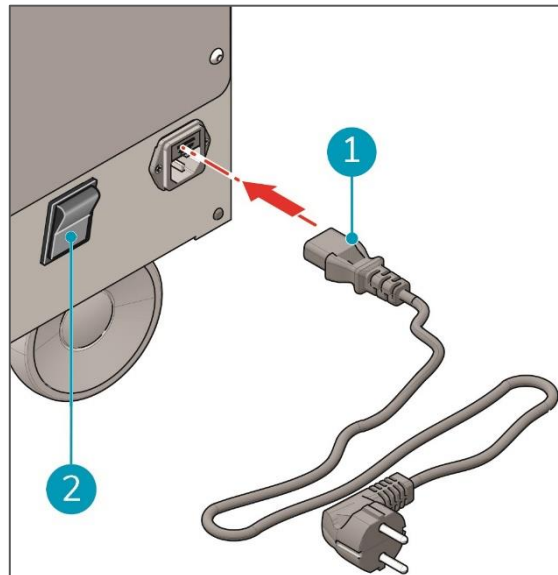

Figure 8
1. Insert the power cable into the power cable socket of the i-air Pro and the power plug into the wall socket (Figure 8, pos. 1).
2. Press the main power switch to turn on the power (Figure 8, pos. 2).
3. Press the main power switch (Figure 8, pos. 2) again to turn off the power.
11. Press the main power switch to turn on the power (Figure 8, pos. 2).